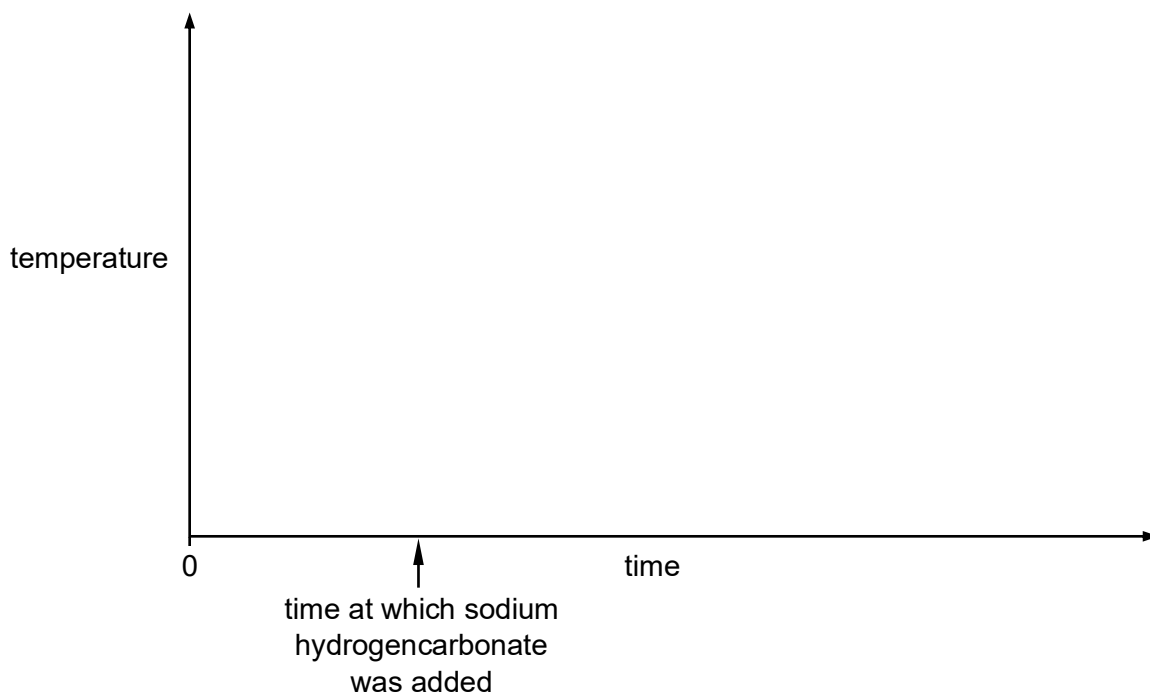

Figure 4.1
- (c) (i) Sketch, on Figure 4.1, the graph you would expect to obtain using the measurements you planned to make in **4(b)**.